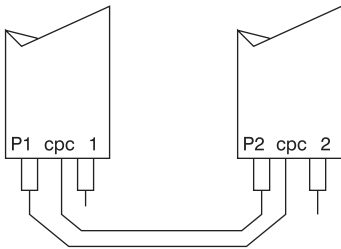

Fig. 19.19
- 5 Repeat the above procedure, but in this case cross connect the phase and CPC loops (Figure 19.19).